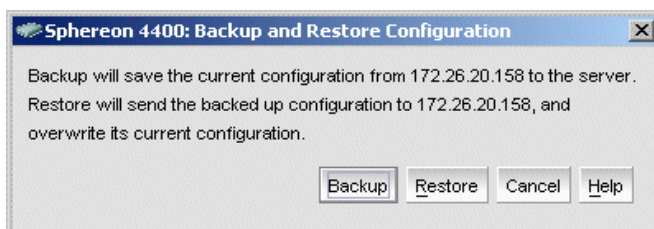

Figure 4-19 Backup and Restore Configuration Dialog Box
1. Select *Backup & Restore Configuration* from the *Maintenance* menu (*Maintenance>Backup&Restore Configuration*). The *Backup and Restore Configuration* dialog box appears (Figure 4-19).
2. Select *Backup & Restore Configuration* from the *Maintenance* menu (*Maintenance > Backup & Restore Configuration*). The *Backup and Restore Configuration* dialog box appears (Figure 4-19).